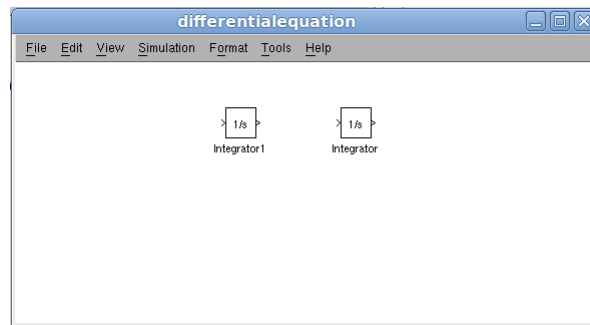

Figure 1: Simulink model with two integrators
3. Choose the group **Continuous** in the tree to the left and drag two **Integrators** to it, see Figure 1.